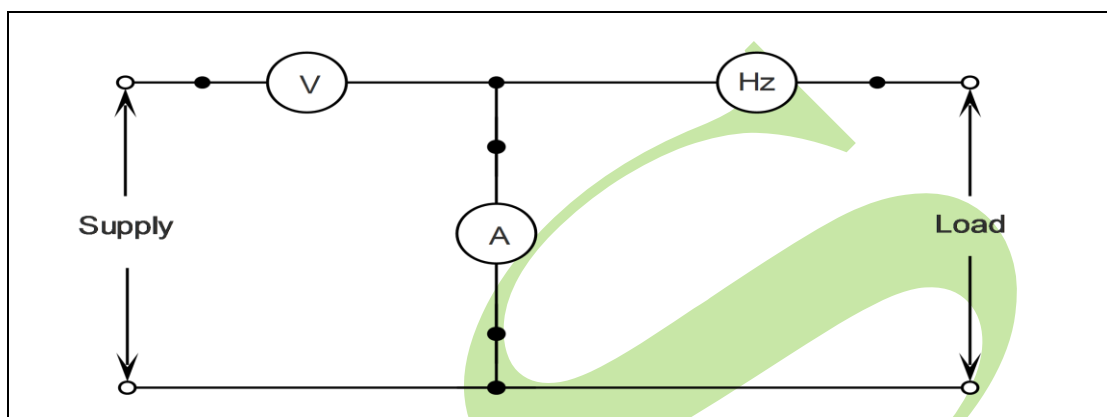

FIGURE 1
- 7.2 A voltmeter labelled A, an ammeter labelled B and a frequency meter labelled C are connected in a circuit to measure the voltage, current and frequency respectively as shown in the FIGURE 1 below.